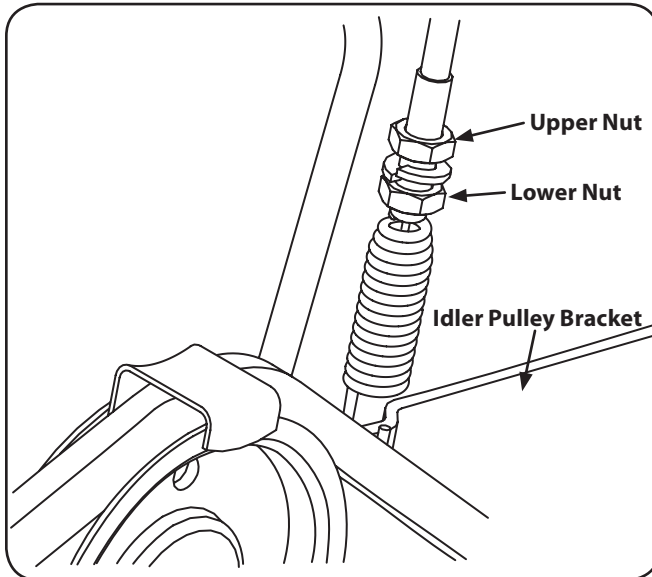

Figure 7-3
2. Locate the spring at the end of the cable. See Fig. 7-3.